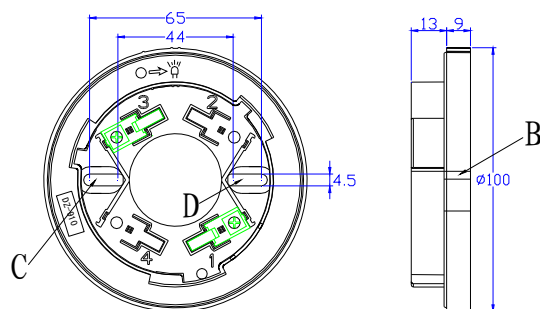

Fig.5
A self-contained complete base is necessary during the installation of a detector. As shown in Fig.5, the model, the external dimensions, the mounting hole diameter and the mounting hole spacing of the base are DZ-910, 100mm×22mm (diameter×thickness), 4.5mm and 44mm ~ 65mm respectively.
2. Use two M4 screws to fix the matched mounting base on the designated position via the mounting holes C and D shown in Fig.5, as instructed in the construction drawing and make sure the matched mounting base has been firmly installed.
5. Place the indicator at position A of the detector (see Fig.1) and position B of the base (see Fig.5), align them with each other, insert the detector into the base and turn the detector clockwise until it is firmly locked.